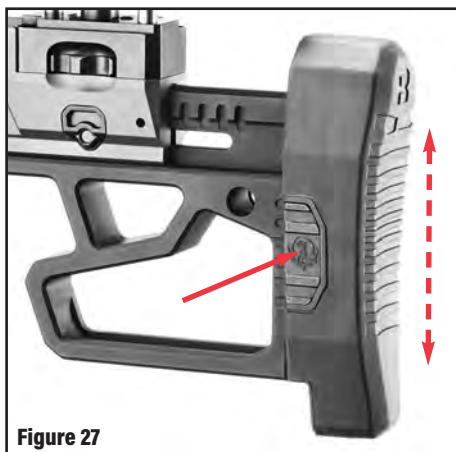

Figure 27
1. Press in and hold down the buttpad button, located on the shooter's left-hand side of the buttpad. (See Figure 27.)
2. While the buttpad button is pressed in, the buttpad can be raised or lowered to your desired height. (See Figure 27.)